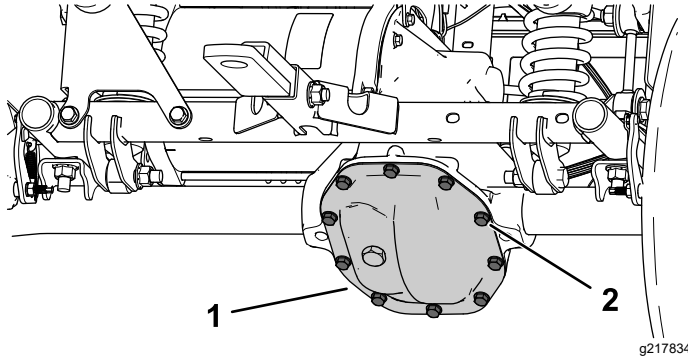

Figure 51
1. Align a drain pan under the transaxle cover (Figure 51).
2. Remove the bolts from the transaxle cover and drain the fluid completely (Figure 51).